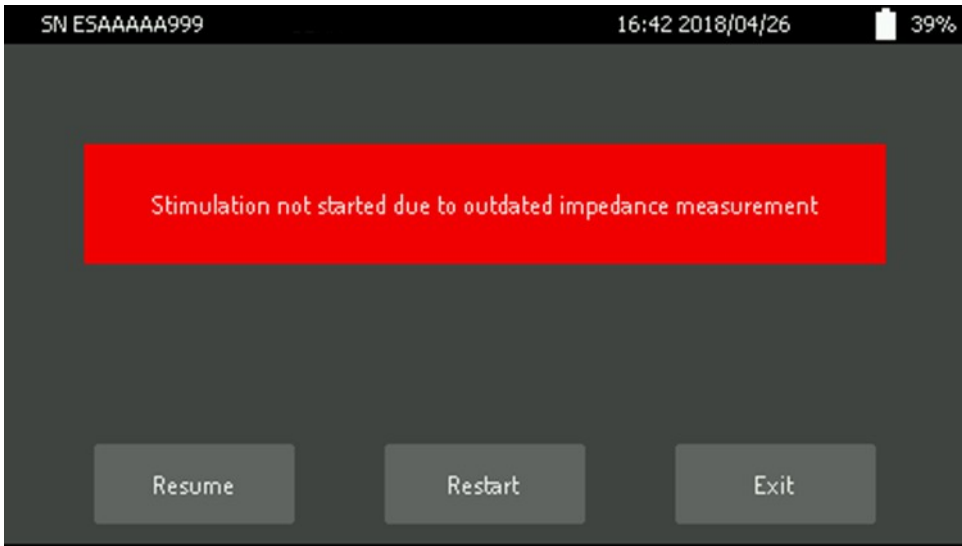

Figure 67. Stimulation not started due to outdated impedance measurement.
- impedance measurement is outdated (Figure 67),